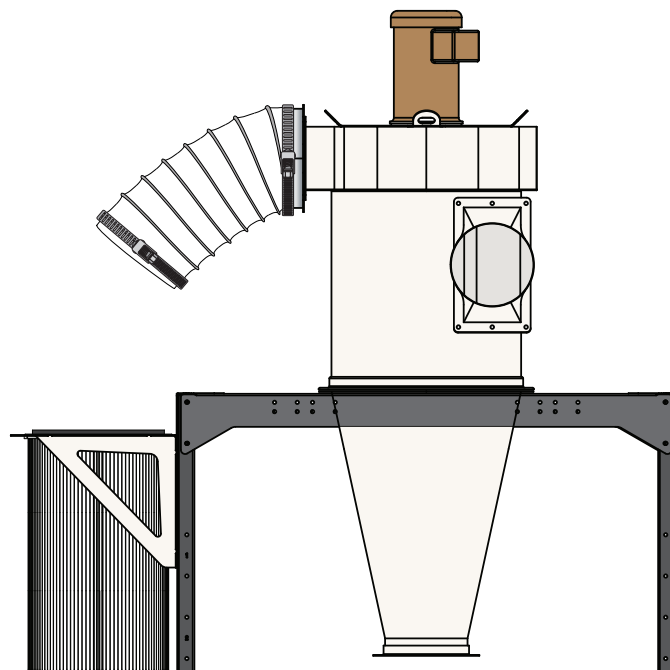

FIG. 13
Attach 12" Diameter Flex Hose (G) to the 12" Square to Round previously installed on the Fan Blower Assembly's (A) outlet, and secure it in place with the Clamp Band (H) [FIG. 13].